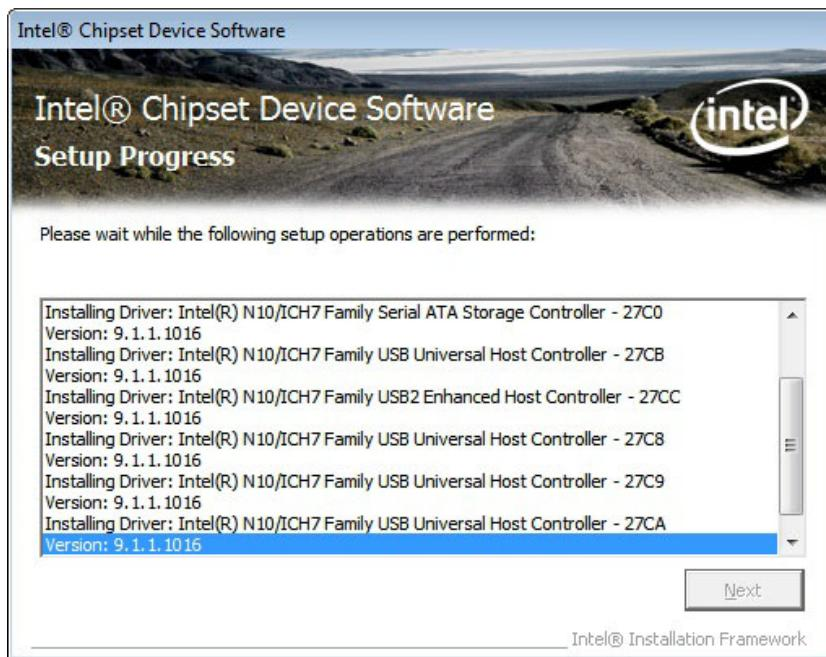

Figure 6-7: Chipset Driver Setup Operations
Step 14: **Setup Operations** are performed as shown in **Figure 6-7**.